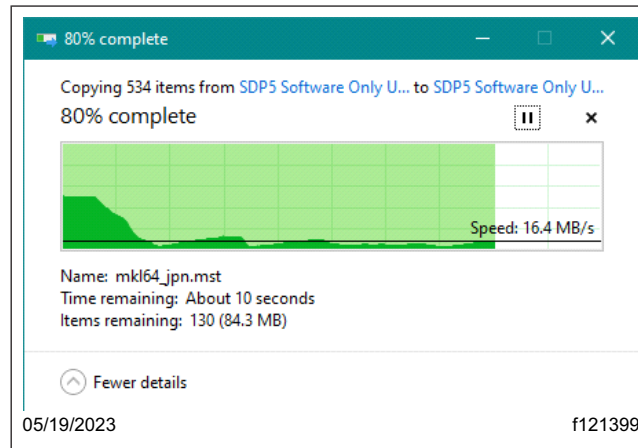

Fig. 6, Extracting the Files
8. The files are extracted to the destination folder. See Fig. 6.